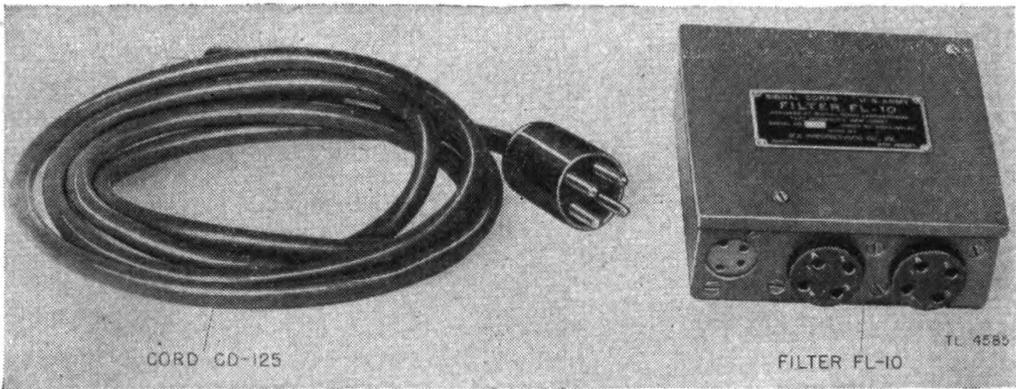
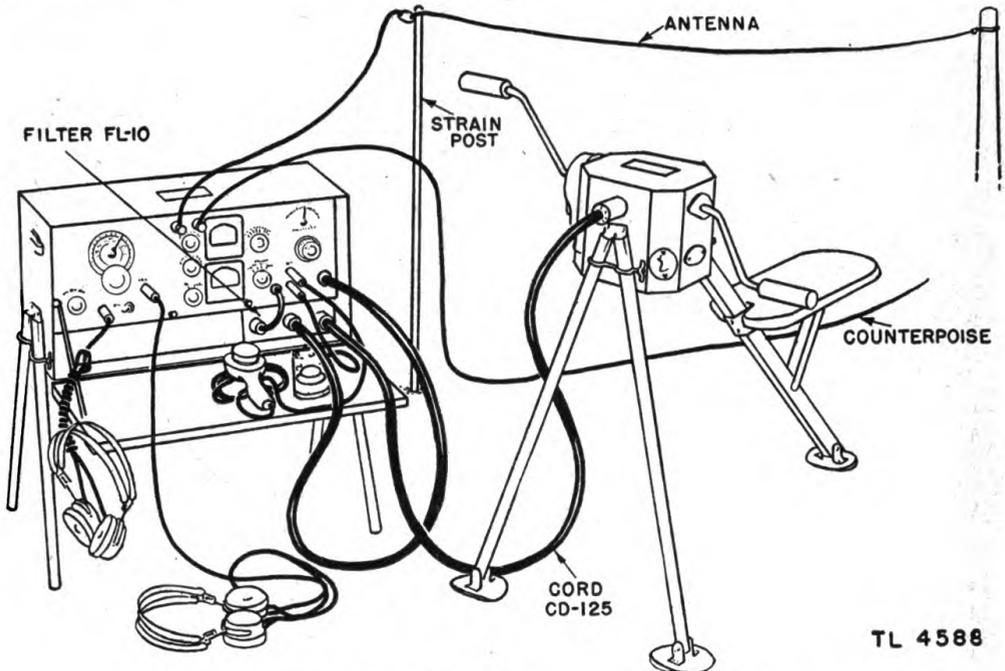

FIGURE 4.—Filter FL-10 and cord CD-125.
FIGURE 7.—Radio set SCR-288 (receiver operated by generator).
(6) If the desired signals are voice signals, they will be heard in somewhat distorted form, mixed with a varying tone. Push PHONE-C.W. switch to PHONE, and turn tuning knob 107 back and forth very slightly for maximum signal strength and clarity. Adjust the VOLUME control knob as desired.
(7) If the desired signals are modulated c-w signals, leave PHONE-C.W. switch in the C.W. position until they are heard. Then push the switch to the PHONE position and turn tuning dial slightly for best results. Adjust VOLUME control knob as desired.
(8) An extra pair of headphones may be plugged into the jack marked EXTRA PHONES. *When only one pair of phones is used, it must be plugged into the right-hand jack (marked PHONES) as the filament circuit is open when there is no plug in this jack.*
(9) To turn off the receiver, rotate VOLUME control knob to the extreme counterclockwise position. To avoid disturbing the sensitivity or audio output setting by turning the receiver off in the manner just described, it may be desirable to turn off the filaments by removing the plug from the PHONES jack. Monitoring of phone transmission will still be possible by plugging the phones into the EXTRA PHONES jack.
c. Receiver operation by means of generator GN-44-A and filter FL-10 (see fig. 7).—(1) When the receiver is to be operated from the power generated by the hand-driven generator a filter must be used. (See fig. 4.) The three sockets located on the filter case are connected to the receiver battery cable, to the transmitter power cable, and to the hand generator as indicated in (a), (b), and (c) below and in figure 7. Power from the hand generator is supplied to the filter unit by means of the extra cord CD-125. To install the filter, proceed as follows: